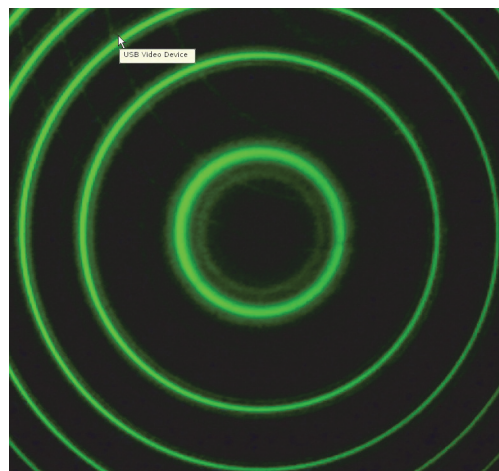

Figure 11: “Bulls-eye” Image
1. Screw the 546.1 nm (nanometer) filter onto one end of the interferometer. Put the interferometer/filter assembly into the second precision kinematic optical mount (see Figure 11).